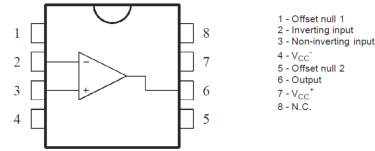

Figure 3: Op-amp
1. Add the feedback control circuit to the plant according to Figure 3. Where  $R_1 = R_3 = 150k\Omega$ ,  $R_2 = 3k\Omega$ ,  $C_3 = 0.47\mu F$ .